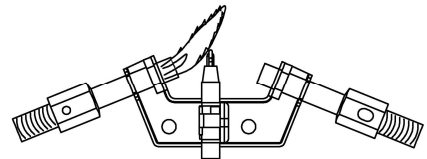

Figure 19 – Correct Pilot Flame Pattern
- Inspect pilot flame and refer to Figure 19 and 20.
- Figure 19 shows a correct pilot flame pattern.